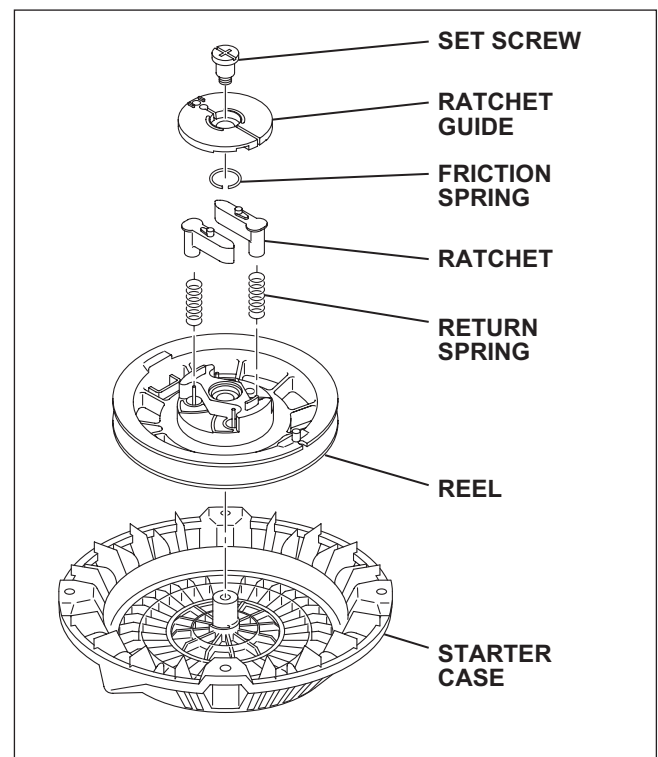

Fig. 14-2
(2) Remove the components. (Fig. 14-2)
(3) Remove the reel. (Fig. 14-2)
- 3 If the spring is about to pop out of the reel, repeat steps (3)-1 and (3)-2.